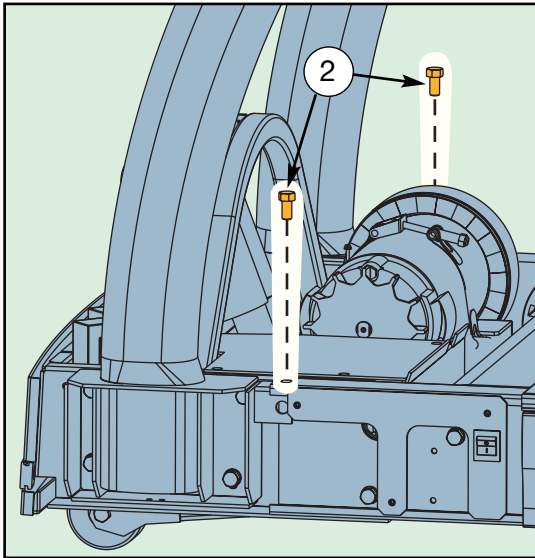

Figure 4
- A.** Using a 9/16" socket wrench, loosely attach the uprights with two of the 3-8-16 x 5-8 hex head whiz-lock screws. **NOTE:** Do not securely tighten the screws until step 7C. See Figure 4.